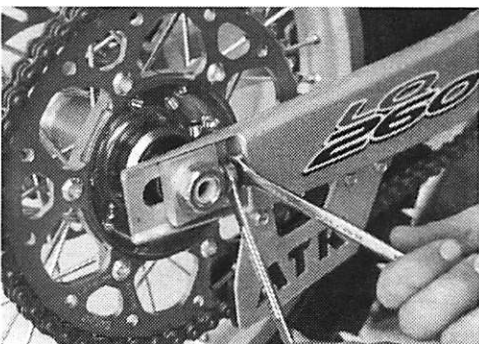

Figure 4.9
6. Ensure that the adjuster screws are tight against the adjuster blocks, then tighten the lock nut with a 12 mm wrench while holding the adjuster screw with a second 12 mm wrench. (Figure 4.9)